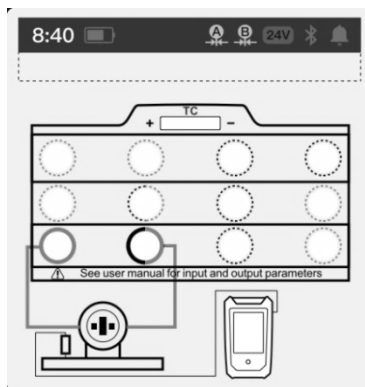

Figure 28 I/P converter
- ◆ As shown in the Figure 28, connect the DUT output with calibrator's electric module.